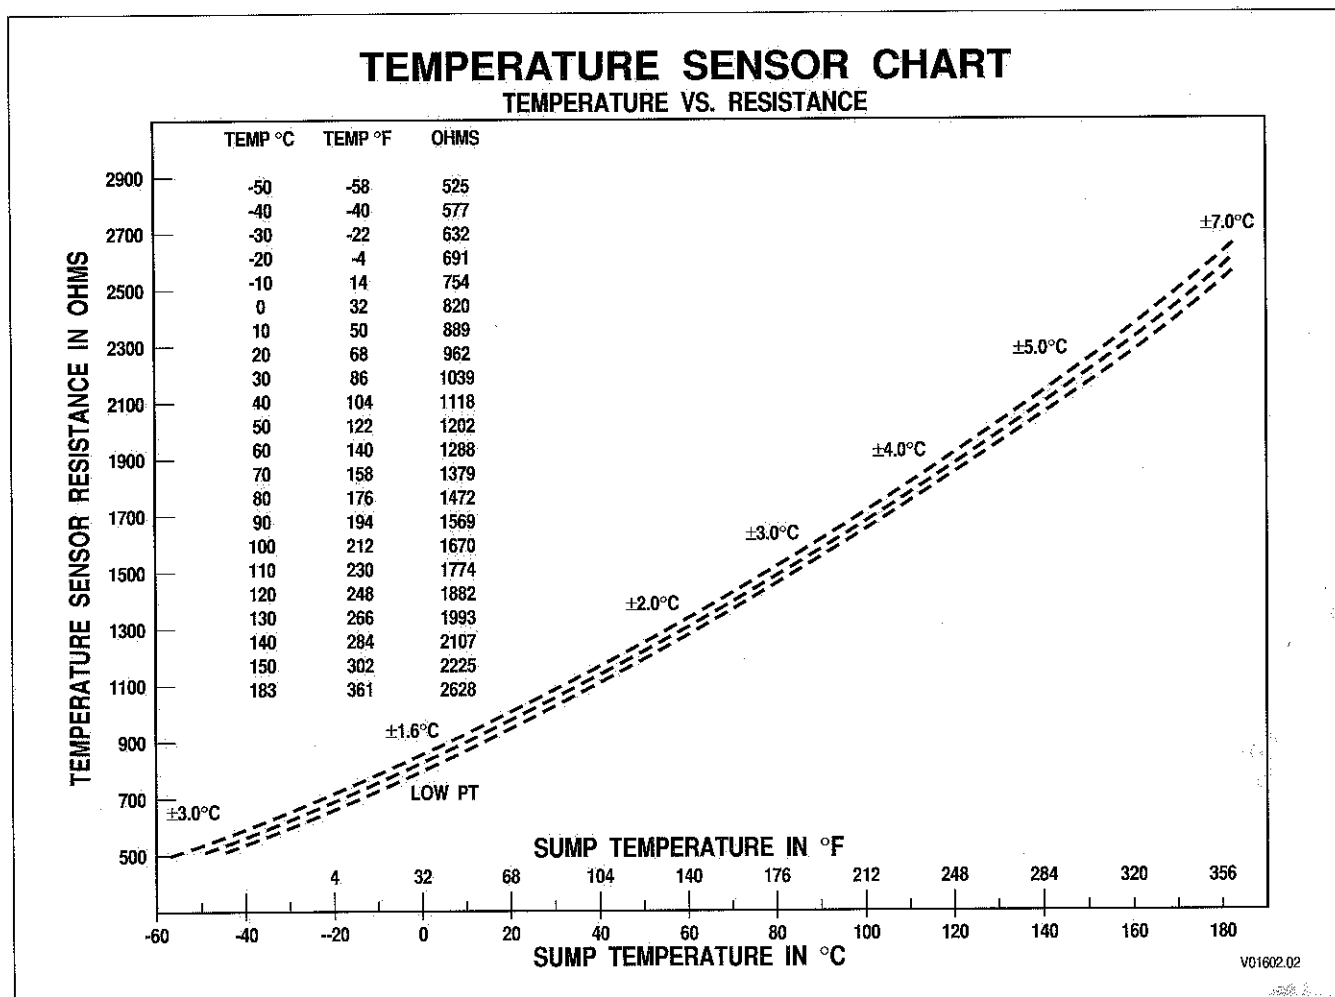

Figure 5-16. Temperature Sensor Chart (Units Built Before 1/98)
2. Check temperature sensor with an ohmmeter. See Figure 5-16 for proper sensor readings.